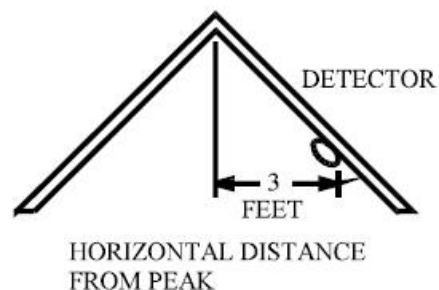

FIGURE 5
9. If some of your rooms have sloped, peaked, or gabled ceilings, try to mount detectors 3 feet (0.9 meter) measured horizontally from the highest point of the ceiling as shown in FIGURE 5.